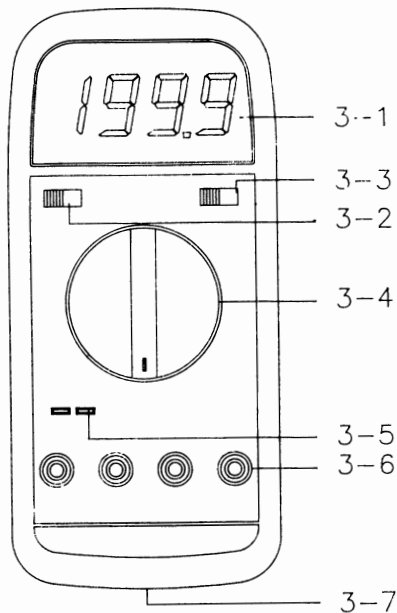

Fig. 1
- 1) Insert the plug of the Thermocouple Probe (optional) into the " Temperature Probe Socket " (3-5, fig 1), take care to observe the correct polarity.